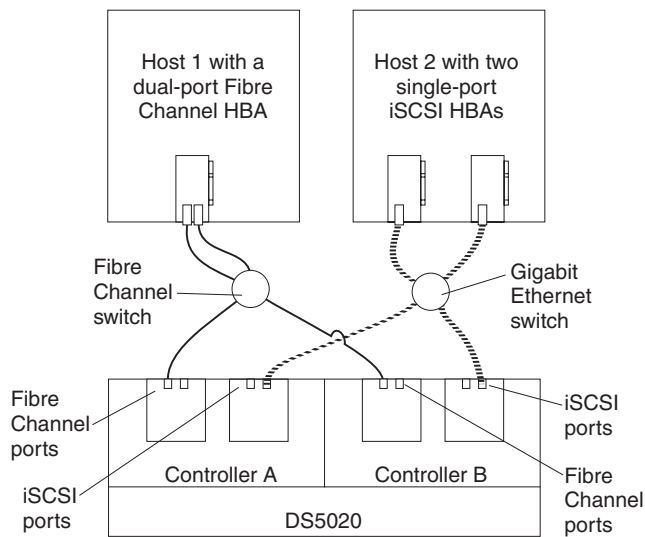

Figure 63. Example of iSCSI and Fibre Channel hosts, multiple-port configuration
- iSCSI and Fibre Channel hosts, multiple-port configuration, as shown in Figure 63 on page 89
Figure 63 shows iSCSI and Fibre Channel hosts in a multiple-port configuration.